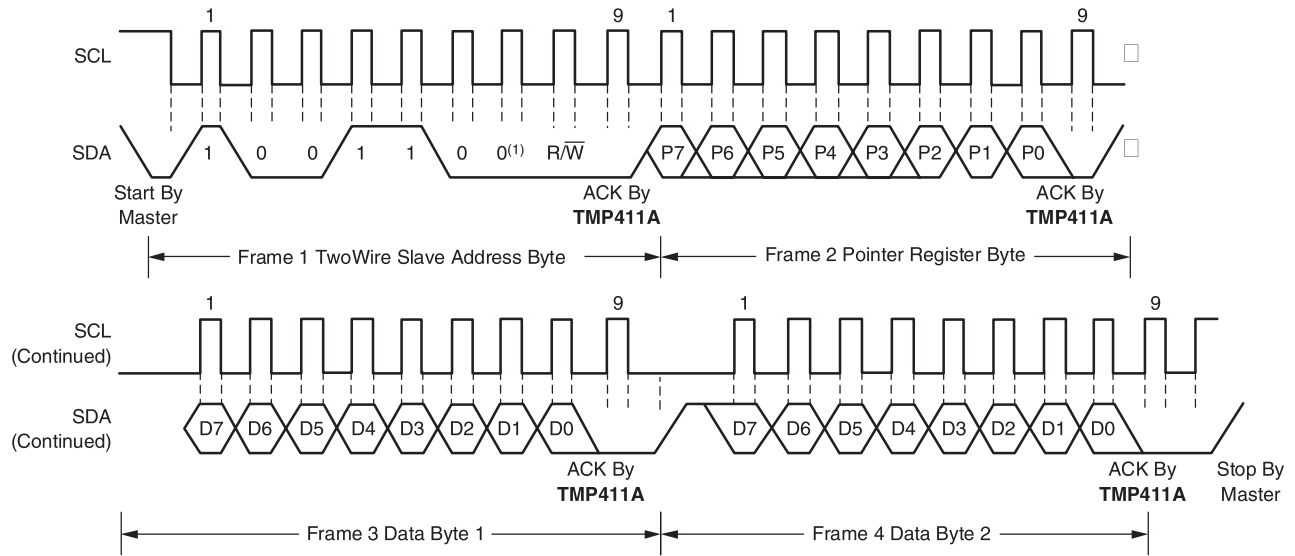

**Figure 13. Two-Wire Timing Diagram**
The TMP411-Q1 is two-wire and SMBus-compatible. Figure 13 to Figure 17 describe the various operations on the TMP411-Q1. Bus definitions are given as follows. Parameters for Figure 13 are defined in Table 13.
**Table 13. Timing Diagram Definitions for Figure 13**